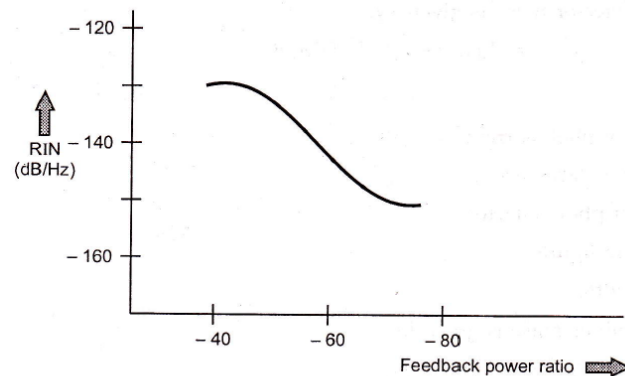

Fig. 6.1.2 Feedback power ratio (dB)
- The optical reflections generated within the systems are to be minimized. The reflected signals increases the RIN by 10 – 20 dB. Fig. 6.1.2 shows the effect on RIN due to change in feedback power ratio.